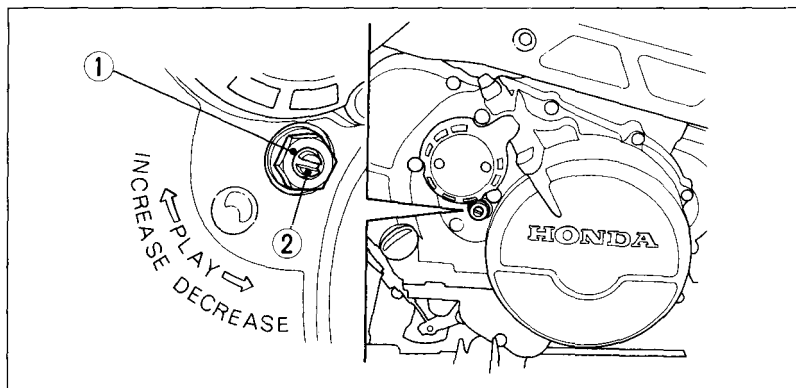

Fig. 4-18
2. Loosen the lock nut (Fig. 4-18), and turn the clutch adjuster (2) counterclockwise until you feel slight resistance.